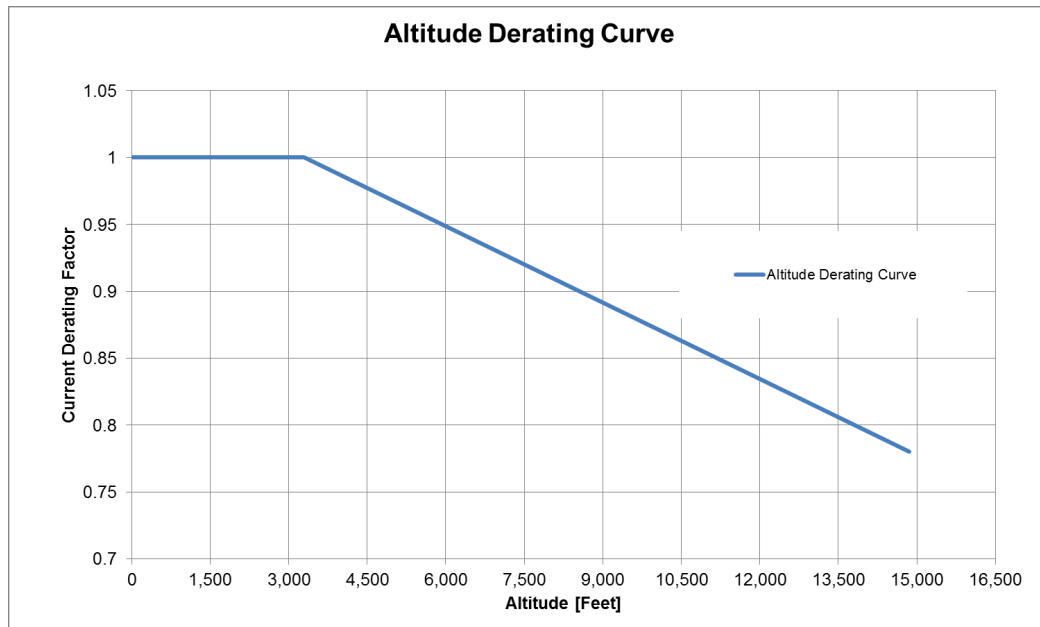

Figure 3-3: Altitude Derating Curve
- ☐ **Altitude:** 3,300 feet above sea level without derating, see Figure 3-3: Altitude Derating Curve (p10) for derating curve.